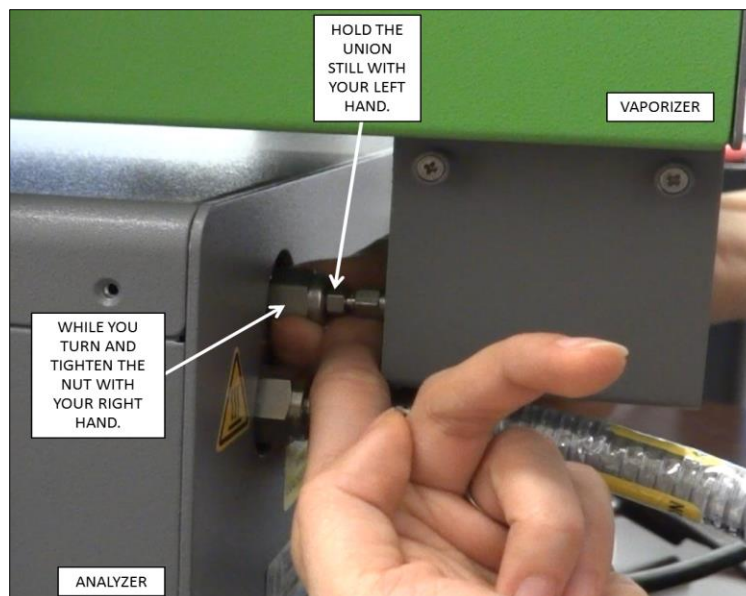
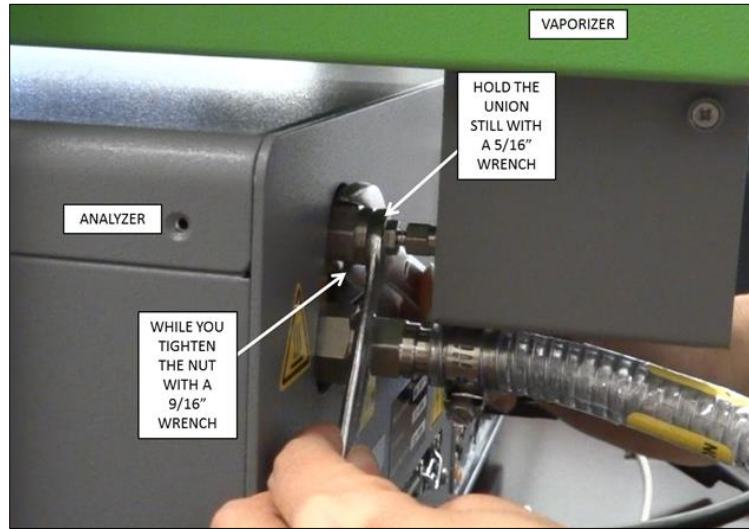

Figure 4: Aligning and Attaching Vaporizer Outlet to Analyzer Input
Figure 5: Tightening Vaporizer Outlet at Analyzer Input
3. Connect the Vaporizer (or Vaporizer with MCM) and the Analyzer via the gas delivery line as shown in Figure 4 and Figure 5. If using an autosampler, carefully align the analyzer and the autosampler relative to each other such that the gas delivery line hanging from the Vaporizer (or the Vaporizer/MCM) lines up to the inlet port of analyzer. Do not bend the delivery port in the process. If using an SDM or performing manual injections, seat the vaporizer feet on top of the instrument with the connection points aligned.